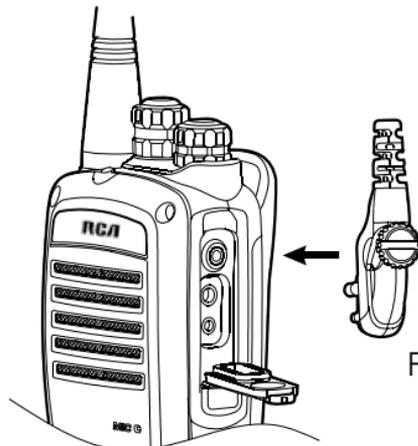

Figure 10
2. Firmly plug the audio accessory into the accessory jack and secure the screw. See Figure 10. **Warning!!** Over-tightening accessories may cause damage to the radio that is not covered under warranty.